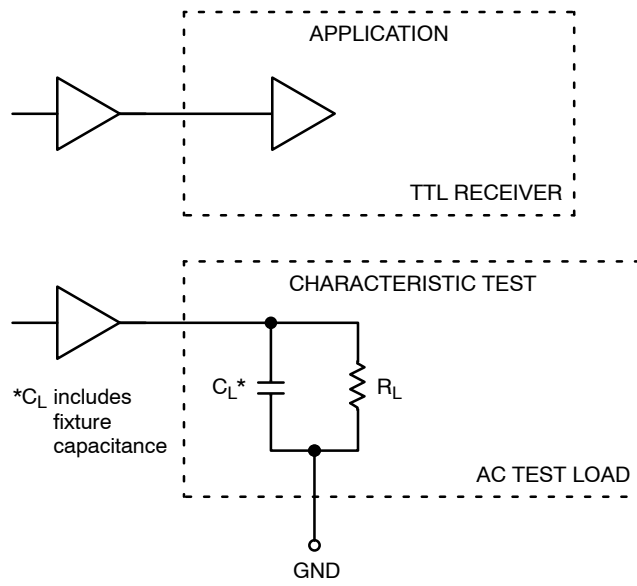

Figure 3. TTL Output Loading Used For Device Evaluation
5. Measured with a 750 mV 50% duty-cycle clock source.  $R_L = 500\ \Omega$  to  $GND$  and  $C_L = 20\text{ pF}$  to  $GND$ . Refer to Figure 3.